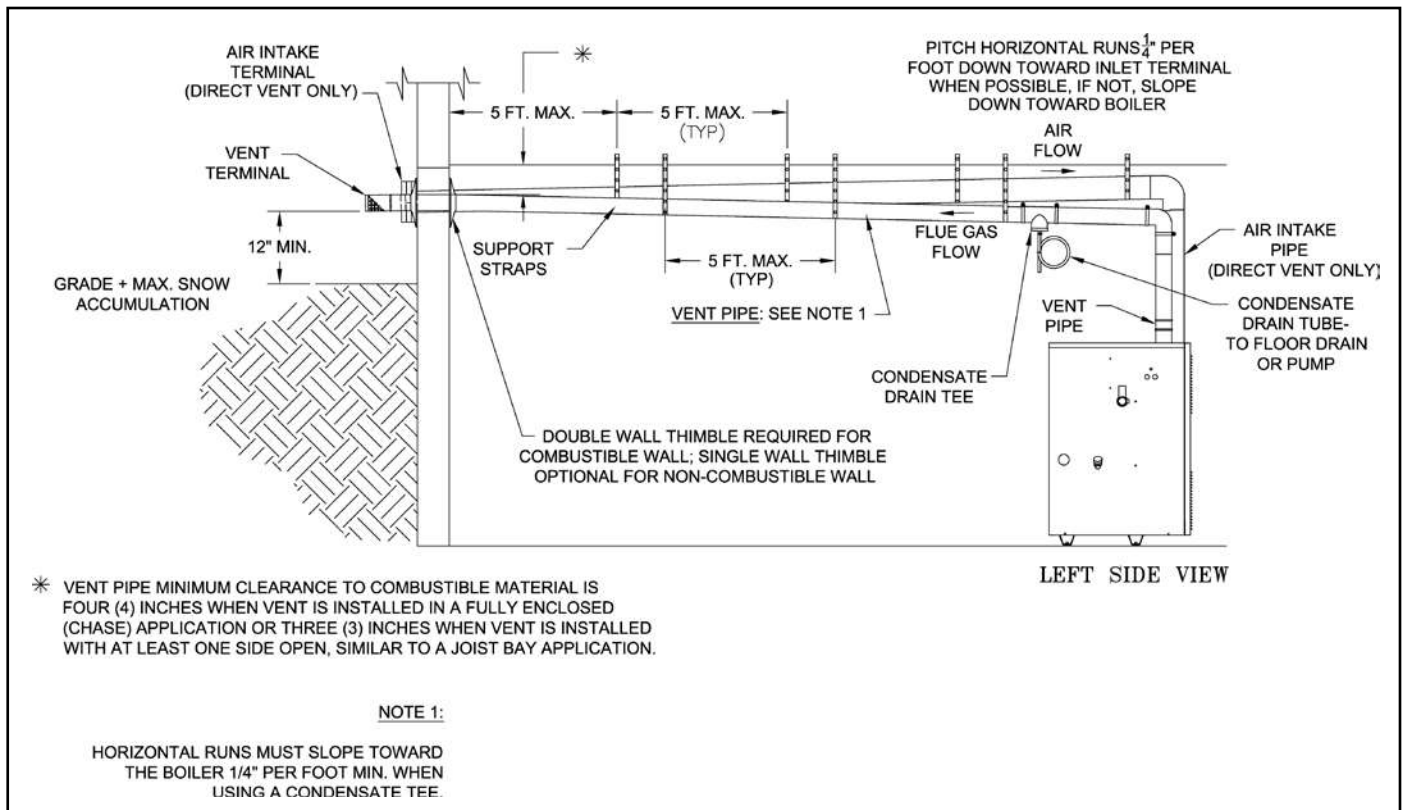

Figure B-3: Alternate Separate Horizontal – Vent/Air Intake Installation
1. Install vent and intake piping per Figure B-3.